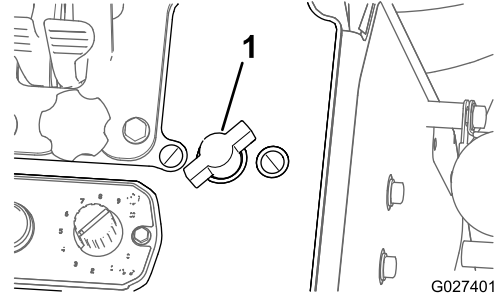

Figure 47
- To increase the pump pressure to the wand, rotate the wand-pressure control counterclockwise (Figure 47).
- To decrease pressure to the wand, rotate the control clockwise direction (Figure 47).
- To shut off the pressure to the wand, rotate the wand-pressure control clockwise until the valve for the control is closed (Figure 47).
6. Rotate the sprayer-wand pressure control clockwise to the OFF position (Figure 47).